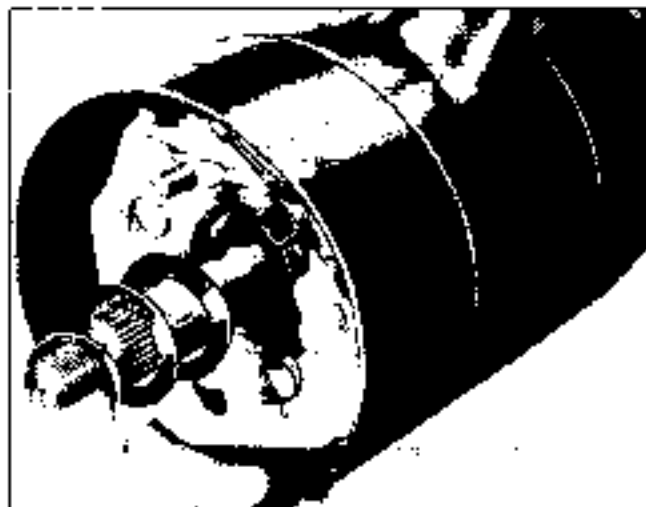

Fig. 9-4 C-Snap Ring, Thrust Washer, Wave Washer
6. Slide thrust washer and wave washer off upper steering shaft (Fig. 9-4).